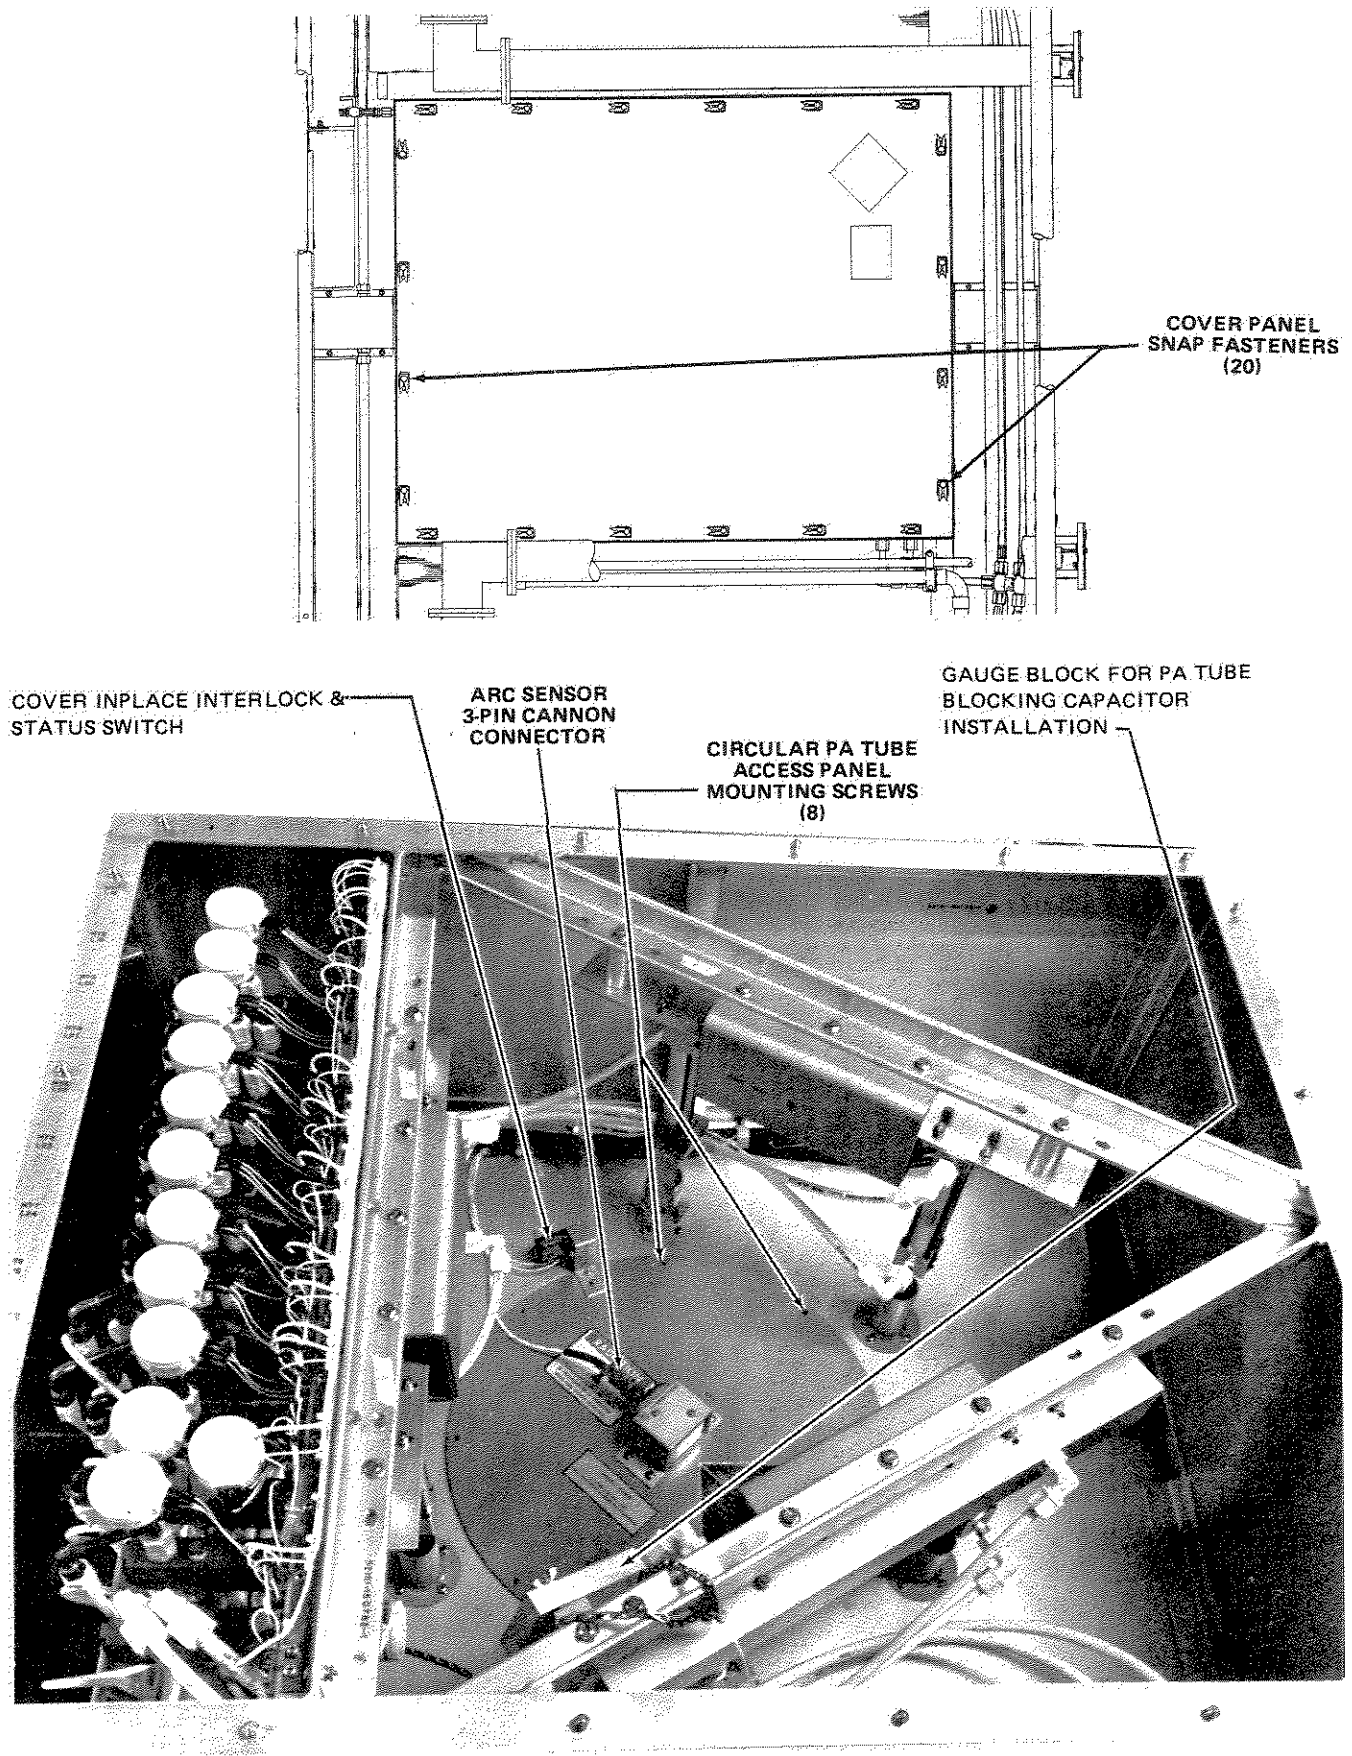

Figure 6-89. PA Tube Compartment Top Access Panels
6-5.22.1 PA Vacuum Tube 1V3 Removal. Refer to Figures 6-89, 6-90, 6-91, and 6-92. Perform the following.
7. Loosen slide-lock fasteners on pneumatic enclosure cover panel at top of cabinet and remove cover (Figure 6-89).
6-5.22.2 PA Vacuum Tube 1V3 Installation. Refer to Figures 6-89, 6-90, 6-91, and 6-92. Perform the following.